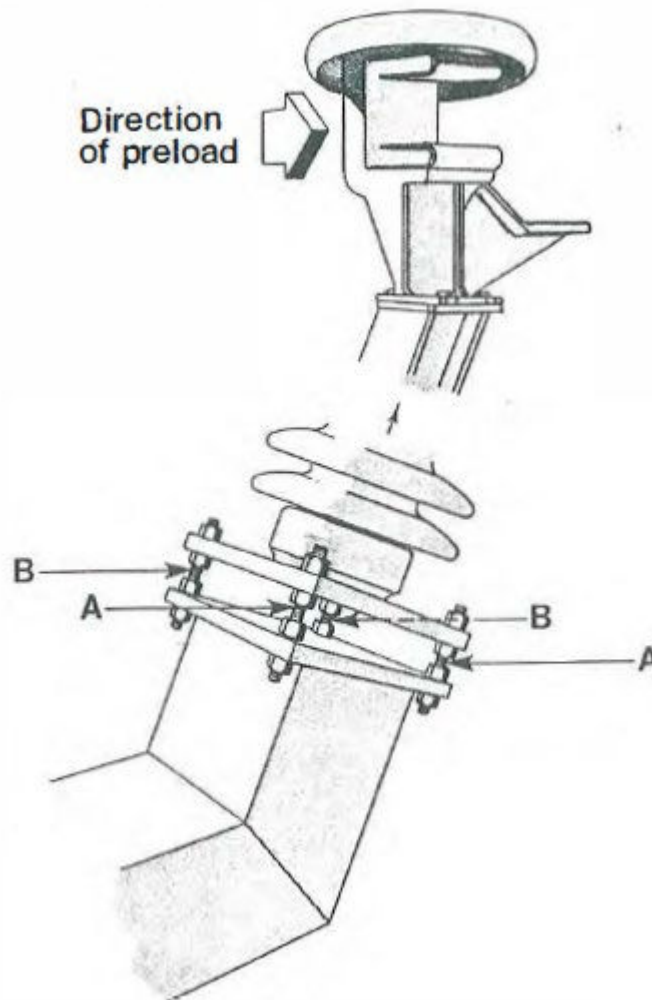

**Figure 12: Blade Tips Centered in Jaw Contact Fingers**
- 2.1.3. The silver of the blade tips should be centered on the silver of the jaw contacts; Misalignment can be corrected by tilting the jaws toward or away from the center stack, using the jaw jack screws. See **Figure 12**.